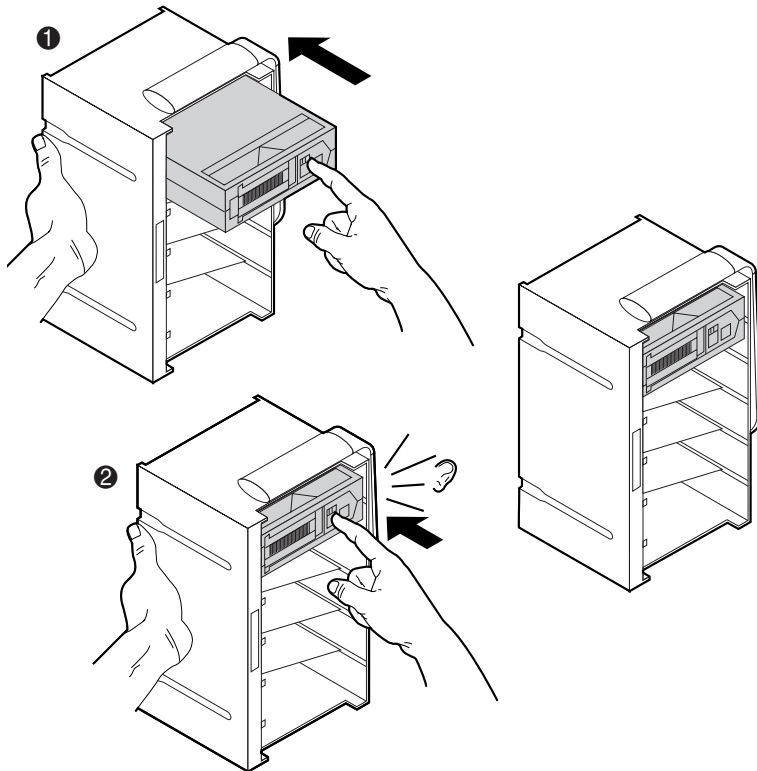

Figure 2-13. Installing a tape cartridge
1. Insert a tape cartridge into a load pack (❶ Figure 2-13).
2. Push the tape cartridge in until you hear it snap into place (❷ Figure 2-13).